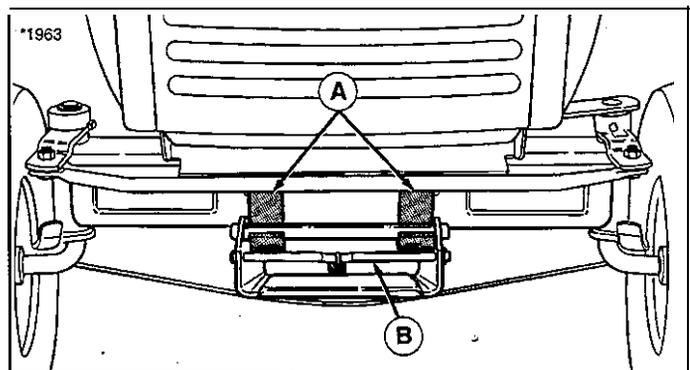

Figure 9. Mower Hitch
6. Turn wheels straight ahead. Pull back on spring-loaded lever (B, Figure 9) and lift mower hitch off of the tractor brackets.